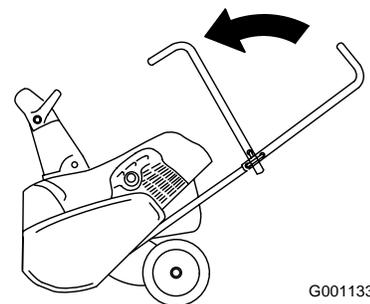

Figure 24
2. Fold the upper handle forward (Figure 24).